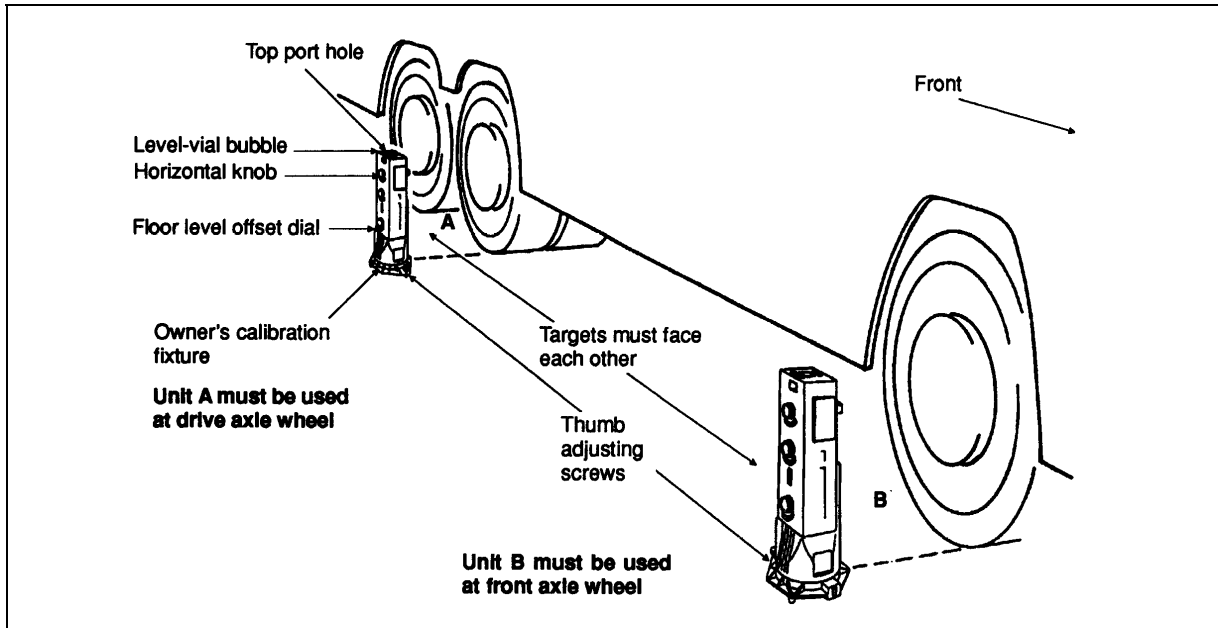

FIGURE 54: HEADLIGHT ALIGNMENT
2. Fix one (1) calibration fixture to each aligner.
3. Install aligner in center of each wheel on one side of vehicle. Unit B must be installed beside the front axle wheel with its viewing port facing rearward, and unit A beside the drive axle wheel with its viewing port facing forward. See figure 54 for more details.